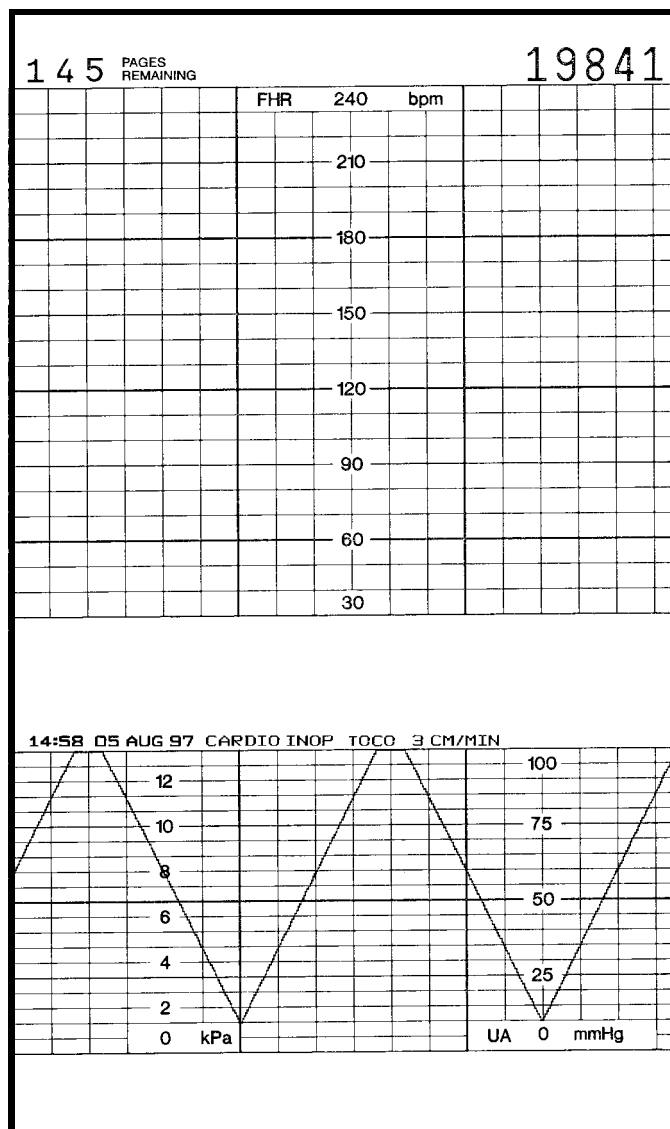

Figure 6-5. Uterine Activity Ramp
10. Place the simulator's **UA Level** switch to the RAMP position. Verify that the UA value measures a ramp between 10 and 100 relative units and that the recorder prints a ramp between the same values. Refer to Figure 6-5.